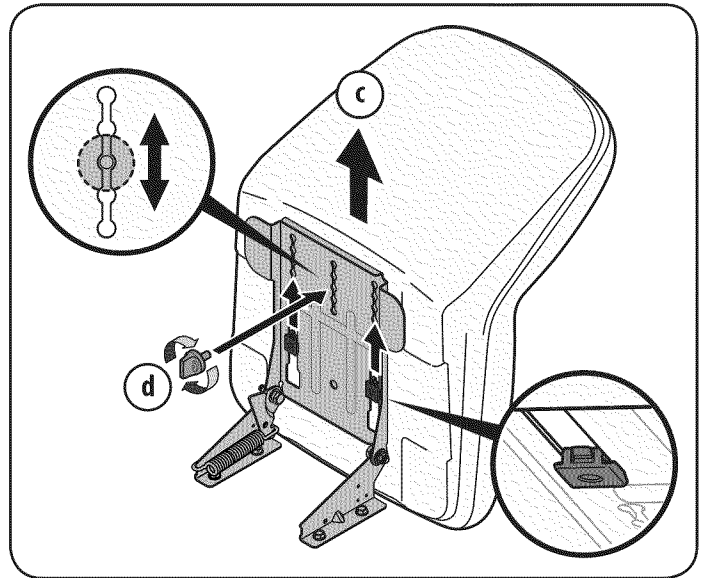

Figure 5
3. Slide the seat rearward in the seat pivot bracket (c), lining up the center rear slot in the pivot bracket with the remaining hole in the seat’s base. See Figure 5.
Note: Be certain the two seat tabs engage the pivot bracket as shown in the bottom inset of Figure 5.
4. Select desired position for the seat, and secure with the adjustment knob removed earlier (d in Figure 5).
5. To adjust the position of the seat, remove the adjustment knob on the bottom of the seat. Slide the seat forward or backward as desired. Reinstall the adjustment knob. See Figure 5.